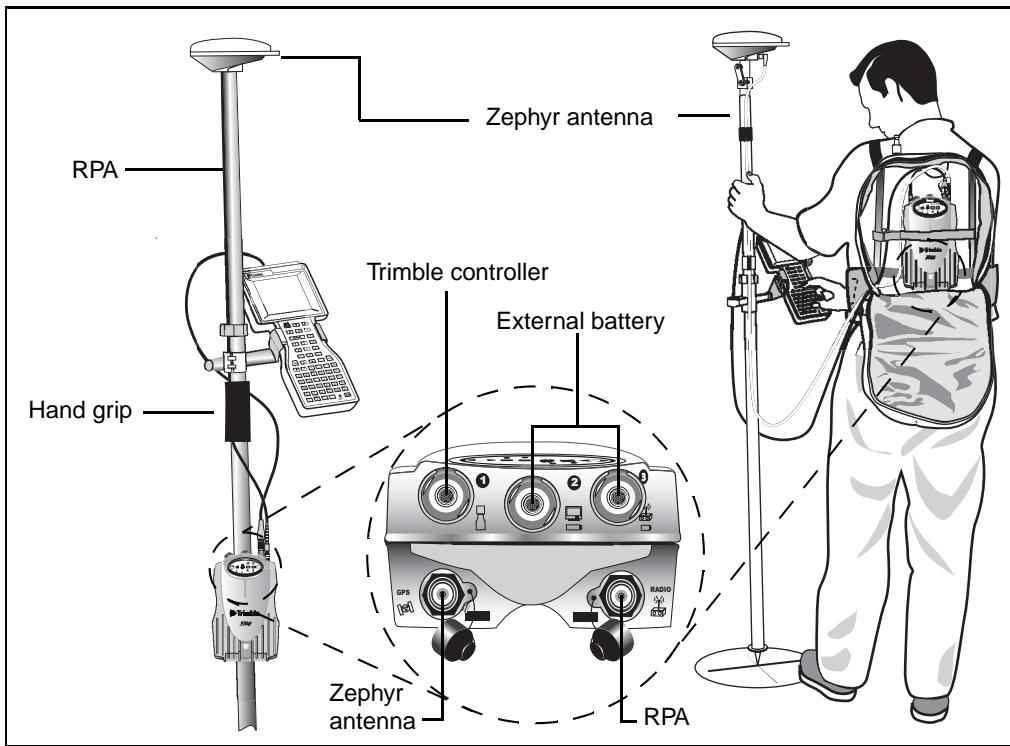

Figure 3.2 5700 RTK rover setup
6. Turn on the controller and go to Starting the RTK Rover Survey, page 248. (see Figure 3.2.)